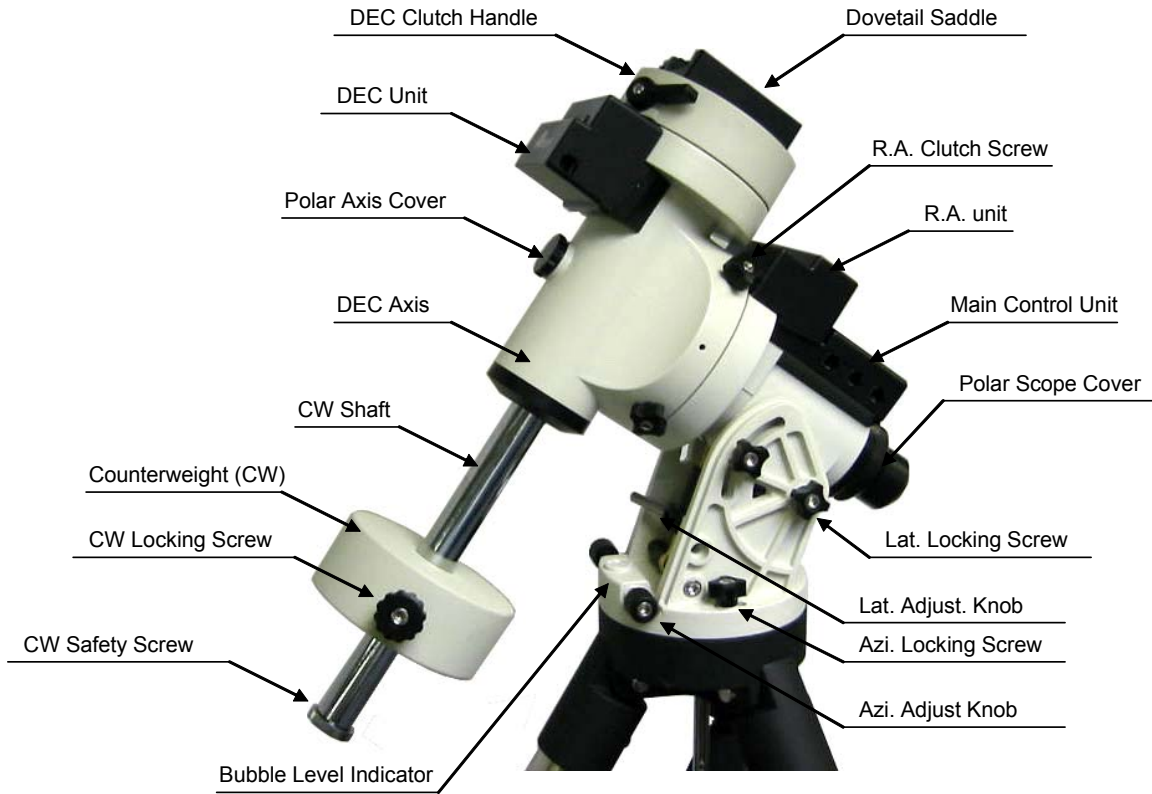
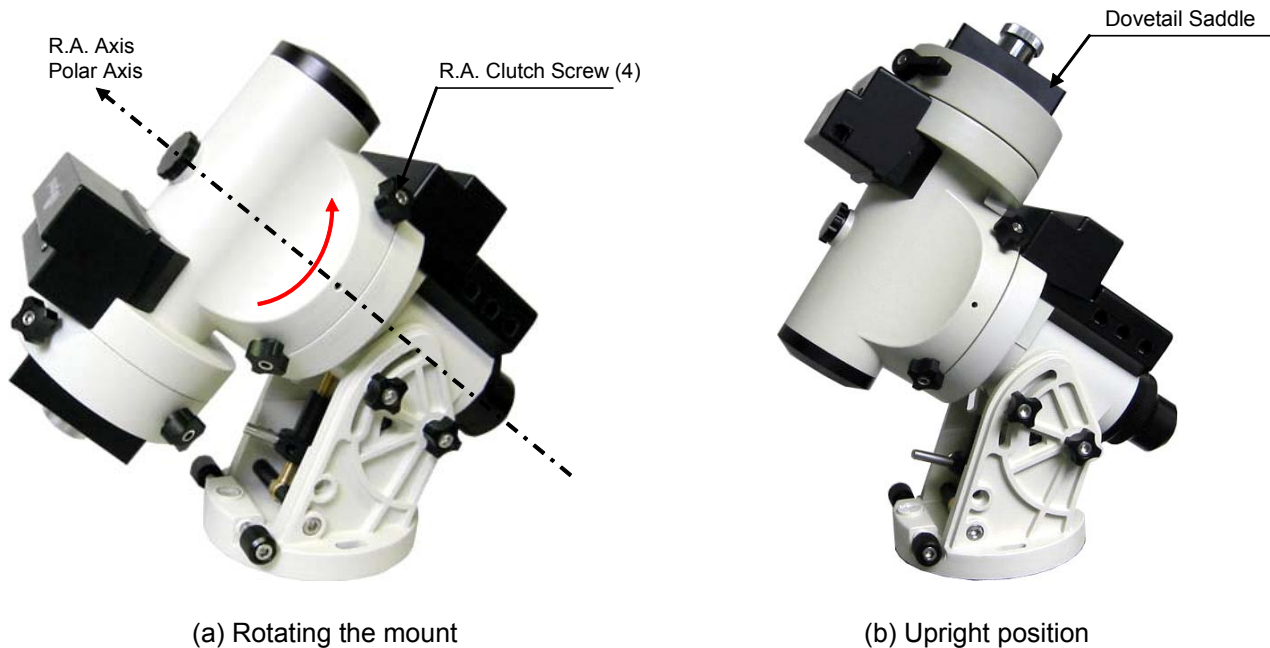

Figure 2. iEQ45 assembly terms (mount and tripod)
Figure 5
Carefully remove the mount from the shipping box and familiarize yourself with the components shown in Figure 2. Unlock the four (4) R.A. Clutch Screws and rotate the mount 180° around the R.A. axis to move the dovetail saddle face topside to the highest vertical position as shown in Figure 5. Tighten the R.A. Clutch Screws.